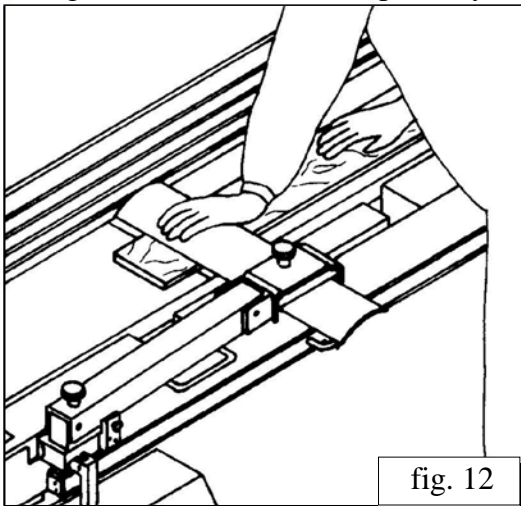

fig. 12
Thicknessing /fig. 12, 13, 14/
- .. Piece is pushed forward on the entry board by the palms of the hands, the hands passing one after another over the guard of the cutting shaft (fig. 12, 13/.
- ,. The piece is pushed forward by the palms of both hands, exactly as for details thick up to 65 mm (fig. 12, 13 и 14/).